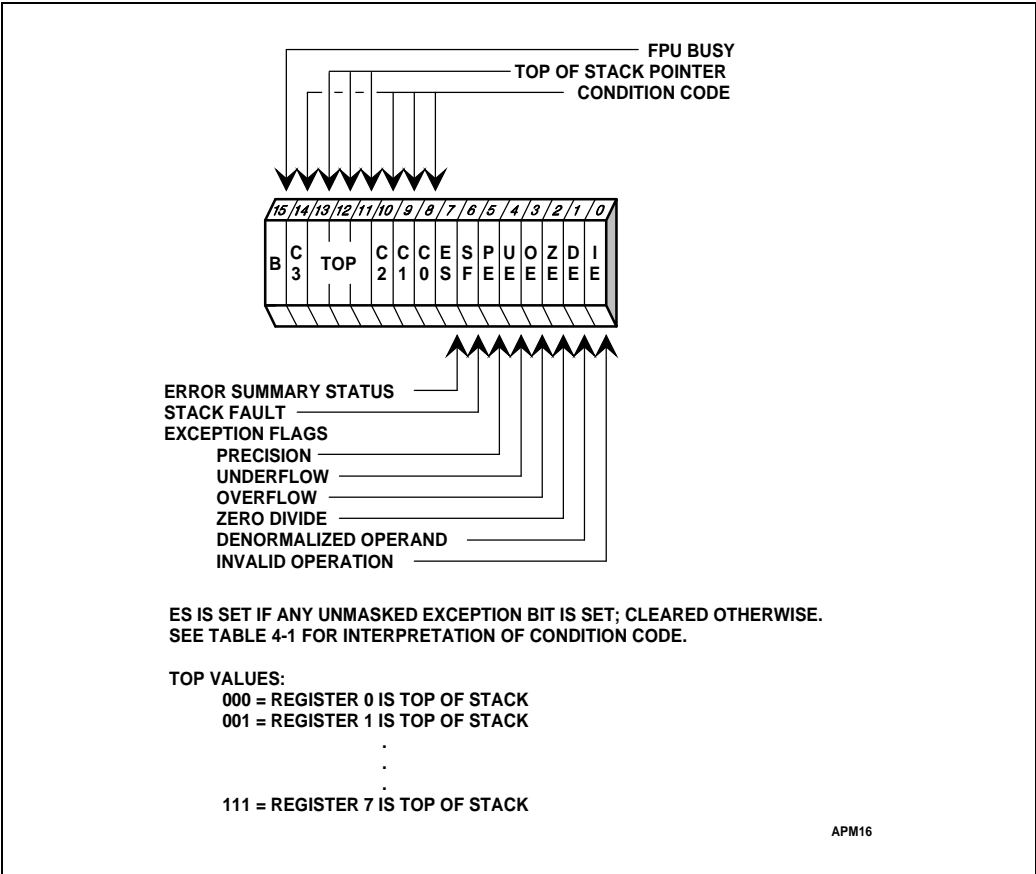

Figure 6-2. FPU Status Word
The 16-bit status word shown in Figure 6-2 reflects the overall state of the FPU. This status word may be stored into memory using the FSTSW/FNSTSW, FSTENV/FNSTENV, and FSAVE/FNSAVE instructions, and can be transferred into the AX register with the FSTSW AX/FNSTSW AX instructions, allowing the FPU status to be inspected by the Integer Unit.
Figure 6-2 shows the six exception flags in bits 0-5 of the status word. Bit 7 is the exception summary status (ES) bit. ES is set if any unmasked exception bits are set, and is cleared otherwise. Bits 0-5 indicate whether the FPU has detected one of six possible exception conditions since these status bits were last cleared or reset. (For definitions of exceptions,